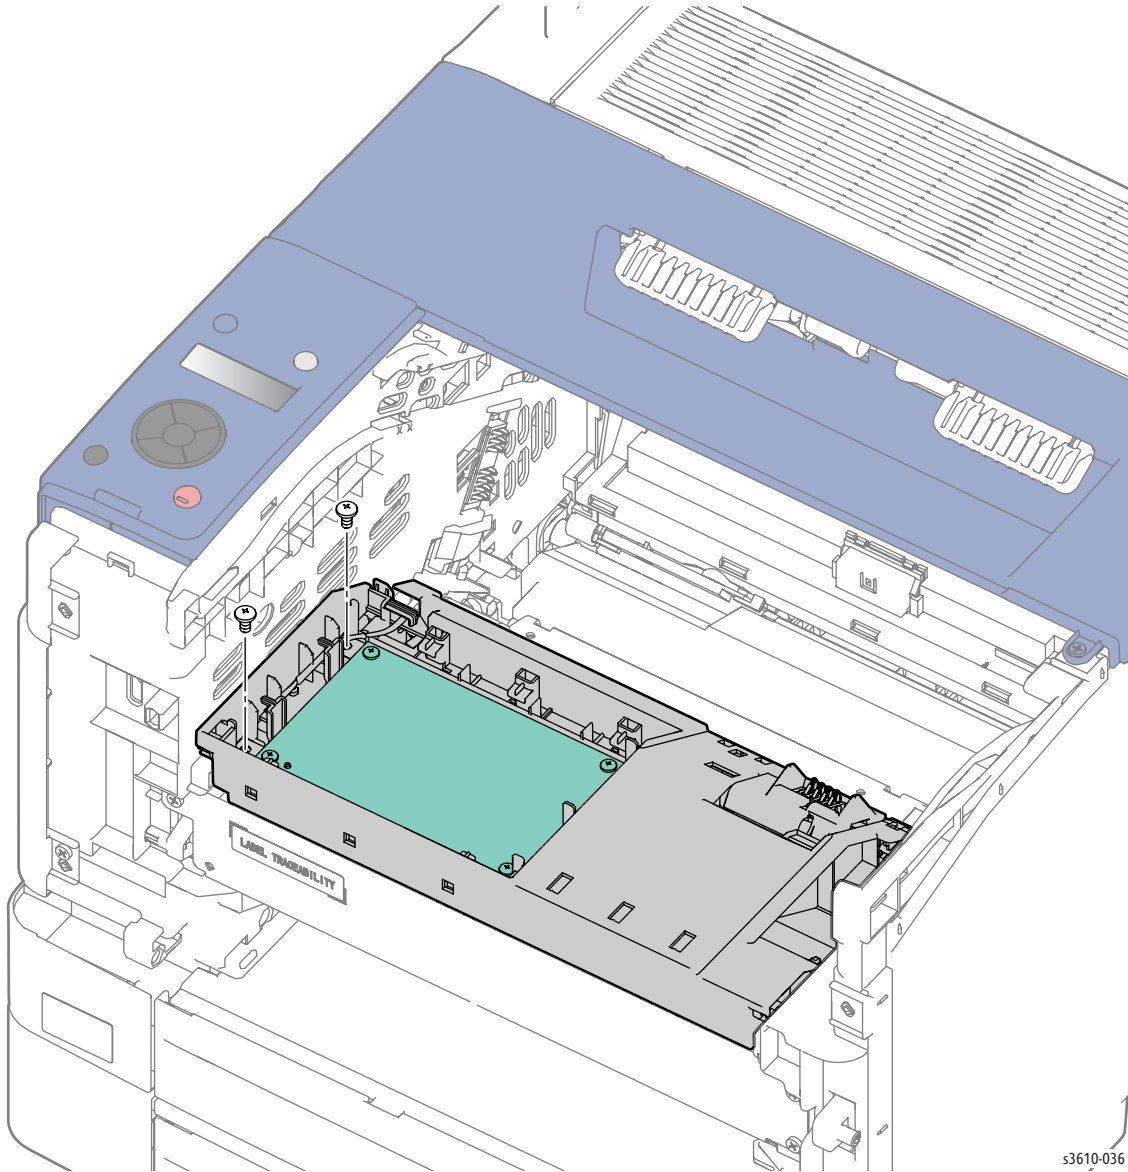

Figure 2
4. Remove 2 screws (silver, M3, 6mm) that secure the MCU Housing to the chassis. (Figure 2)